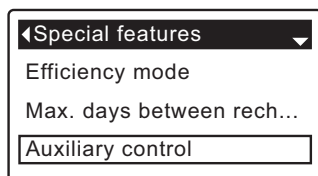

FIG. 82
1. From any of the rolling status screens, press the SELECT (O) button to display the **Main menu**.
3. Press the SELECT (O) button to display the Advanced settings menu.
5. Press the SELECT (O) button to display the Special features menu (See Figure 82).
9. Press the SELECT (O) button. The display will go back to the Special features menu (Figure 82).